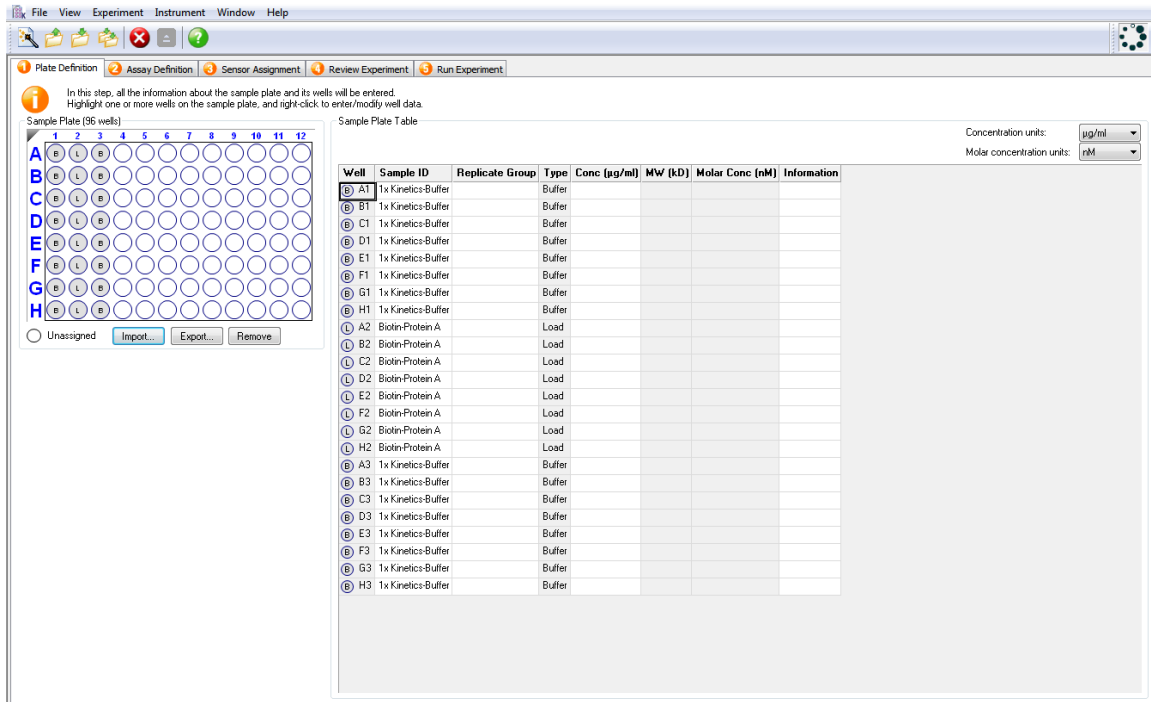

FIGURE 3.12. TAB 1, PLATE DEFINITION OF OCTET DATA ACQUISITION SOFTWARE SHOWS SAMPLE PLATE AND REAGENT PLATE MAPS.
- 3.2. Pipet 200 μ L of the 1X Kinetics Buffer into wells in columns 1, and 3 of a 96-well microplate. Use Table 3.4 of this User Guide or the sample plate table in **Tab 1, Plate Definition** of method file in Octet software to determine sample locations. An illustration of Tab 1 is shown in Figure 3.12.